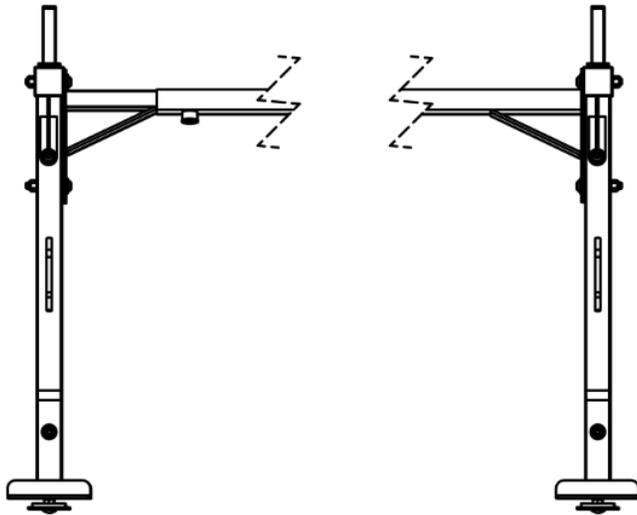
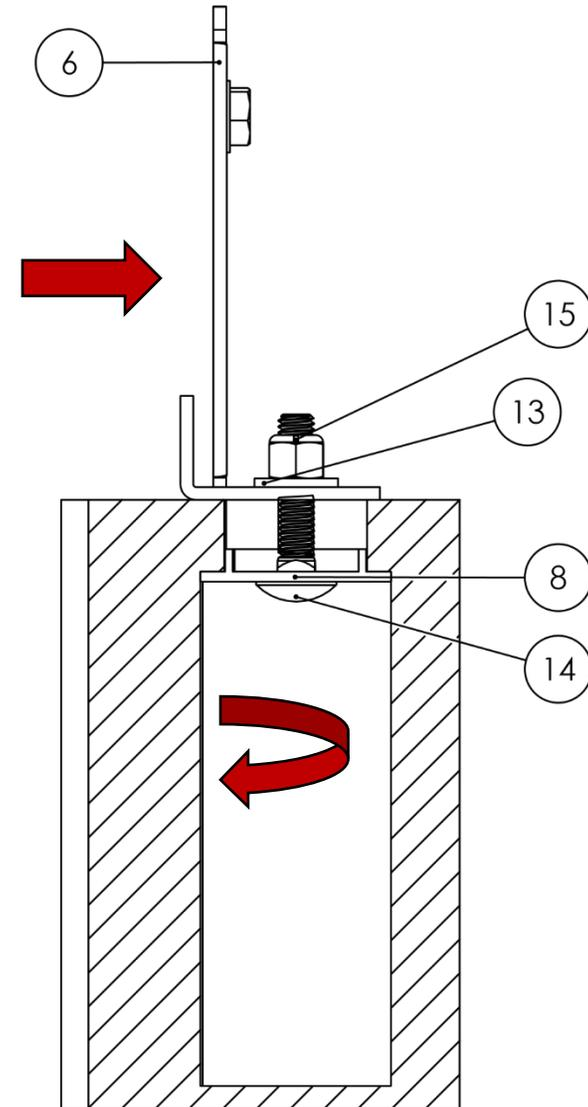

Figure 3
Figure 4
2. **Install the Rack Bases.** Examine the Bases (Item No. 6) and notice the upright flange. The base must be positioned so that this flange is on the outside of the bed as shown in Figure 3. To install the base, place it on the truck bedrail and position it so that the opening found on the bottom of the base is aligned with the bolt projecting up out of the stake pocket. As shown in Figure 4, slide the base forward so that its bottom can be clamped between the Carriage Bolt (Item No. 14), the Washer (Item No. 13) and the Lock Nut (Item No. 15). Once the base has been pushed forward, use a wrench to tighten the assembly until the washer and lock nut are in contact with the bottom of the base. **DON'T forget to apply a little grease to the screws before tightening or it may be hard to remove the nuts later.**